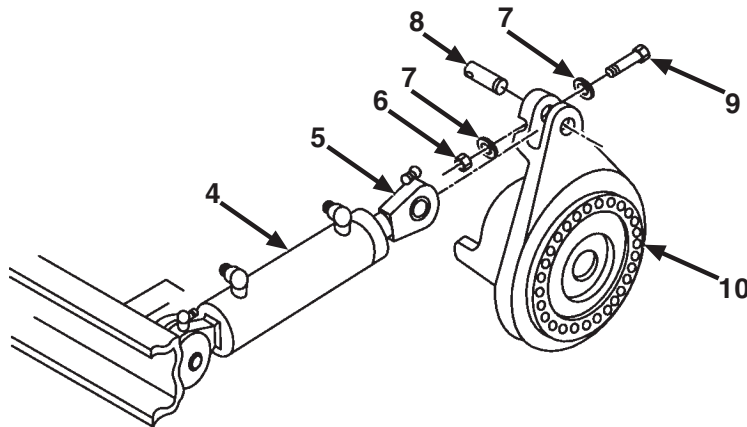

Figure 69. Rear Fuel Tank Strap.
Step 2 applies to Figure 69.
2. Remove screw (item 9), washers (item 7), and locknut (item 6), and pin (item 8) and disconnect rod end (item 5) of hydraulic track adjusting cylinder (item 4) from final drive adjusting flange (item 10).